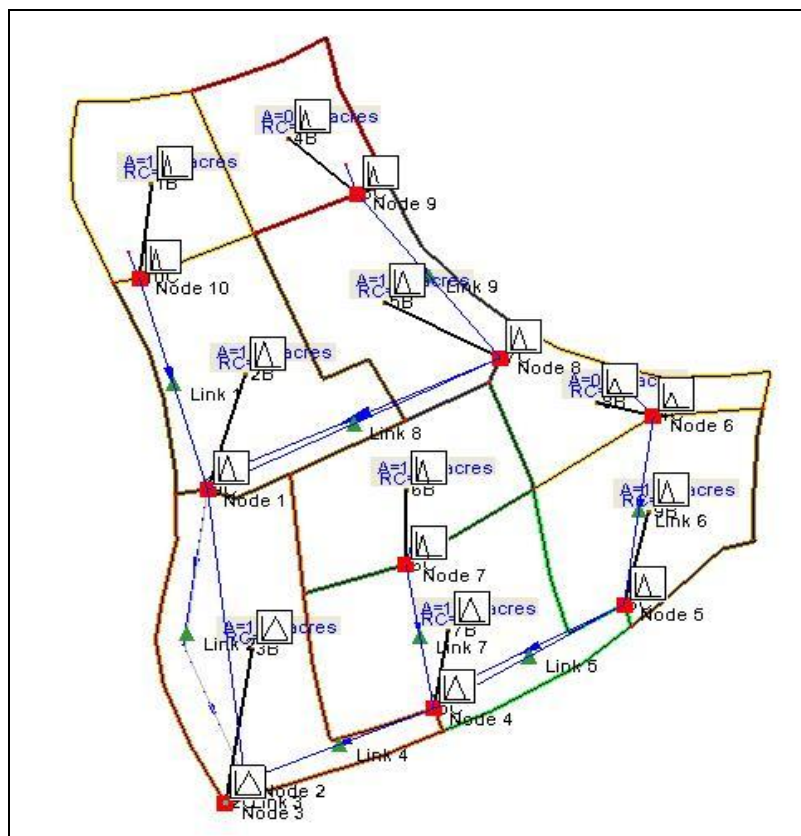

Figure 9-1 Rational Method hydrographs for SWMM
8. Notice that each basin and outlet icon should show a hydrograph icon next to it as in Figure 9-1.